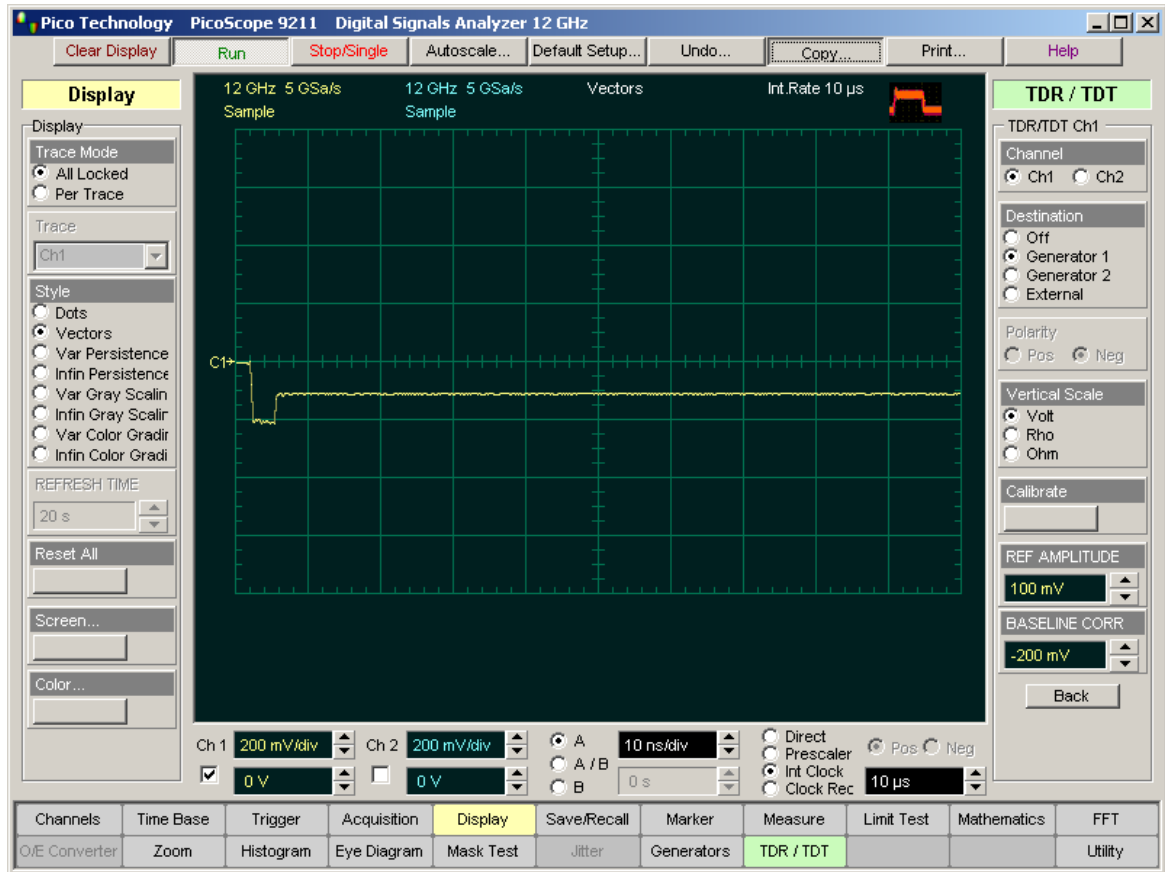

Figure 4
10. Connect the Short to the Reference Plane. You should see a picture like Figure 4. Notice that there is a reflected step having 100-mV amplitude and with the opposite (positive) polarity.